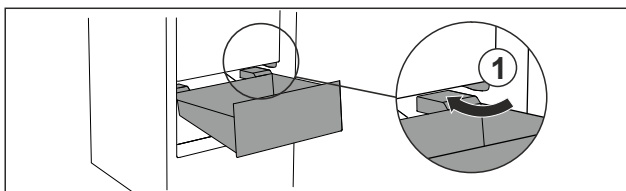

Fig. 72
- ▶ Guide drawer in at an angle around the stoppers Fig. 72 (1).